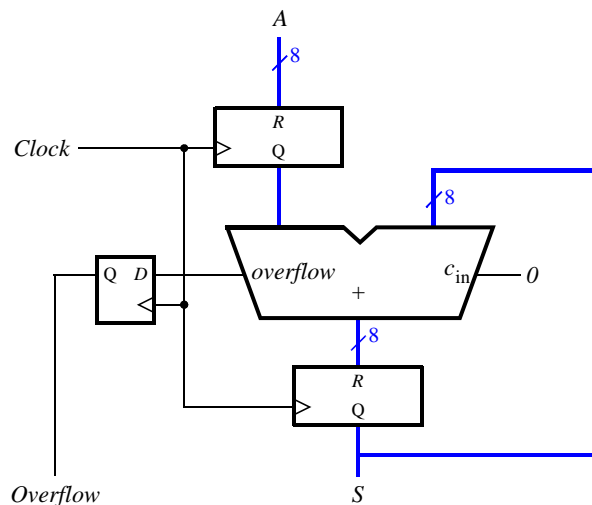

Figure 2: An eight-bit accumulator circuit.
1. Design and test (write a test-bench in vhdl and test in ModelSIM) 8 bit accumulator, as shown in Fig. 2. Extend the circuit to perform addition or subtraction by adding 1 bit opcode and additional required circuitry.
Use this construct to implement a circuit shown in Figure 2.
- Write VHDL code that describes the circuit in Figure 2.